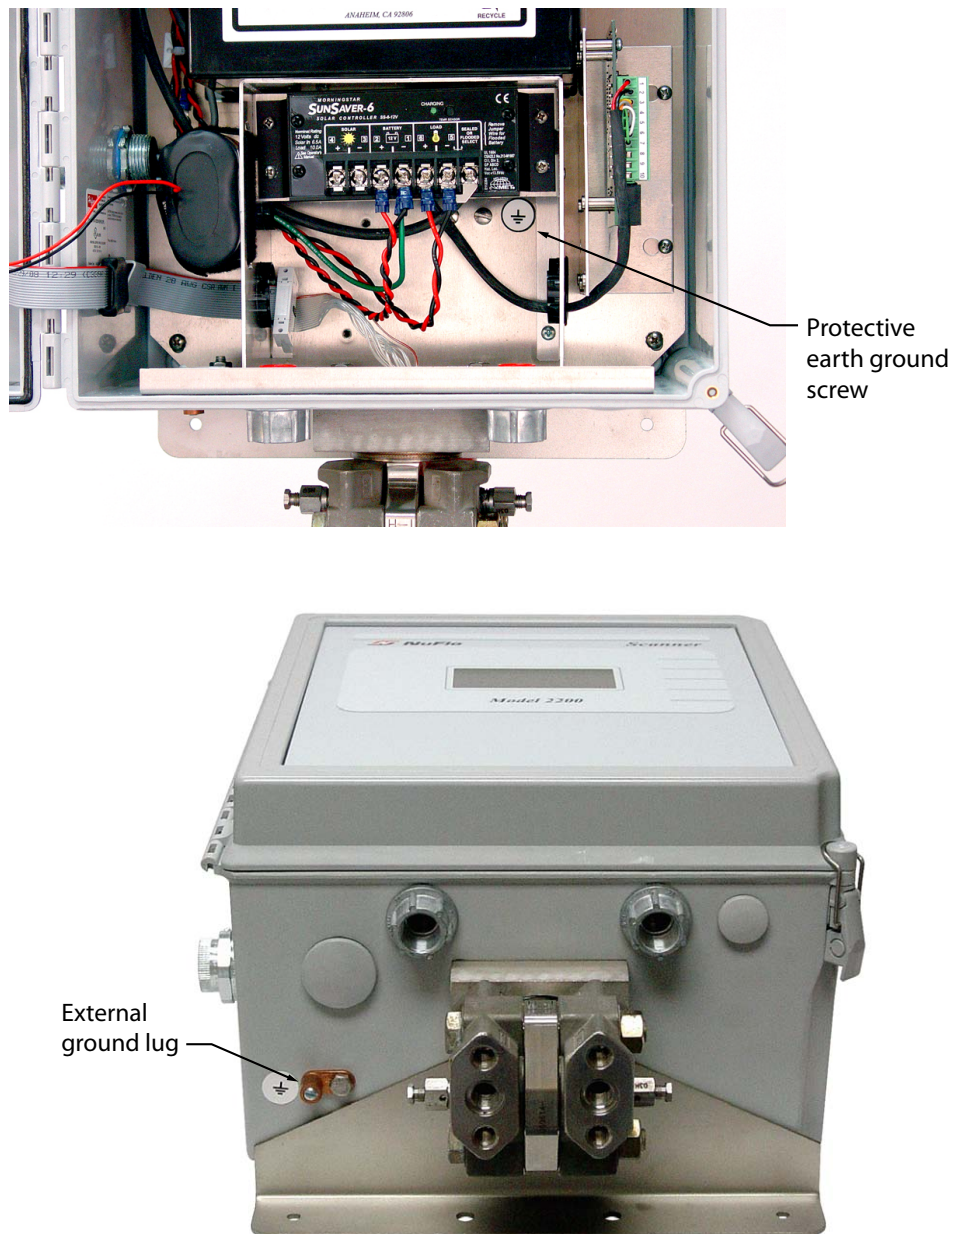

Figure 3.2—Ground screw locations; internal screw shown at top, external ground lug shown at bottom
The Scanner 2200 is to be grounded with a protective earth grounding conductor in accordance with national and local electrical codes. To ground the device, connect a ground wire to the internal ground connection screw marked with the round sticker inside the enclosure as shown in Figure 3.2 (top image).
For solar-powered installations, the protective earth grounding can be accomplished by connecting the device to a ground rod or other suitable system earth ground. The conductor should be terminated at the copper ground lug on the bottom of the Scanner 2200 enclosure (see Figure 3.2, bottom image). This lug will accept wire sizes from 14 AWG solid conductor to 4 AWG stranded conductor.
10. Connect a ground wire from Terminal 7 of the charge controller to a ground screw in the back panel of the enclosure (the screw is marked with a ground symbol sticker as shown in Figure 3.2, page 49).